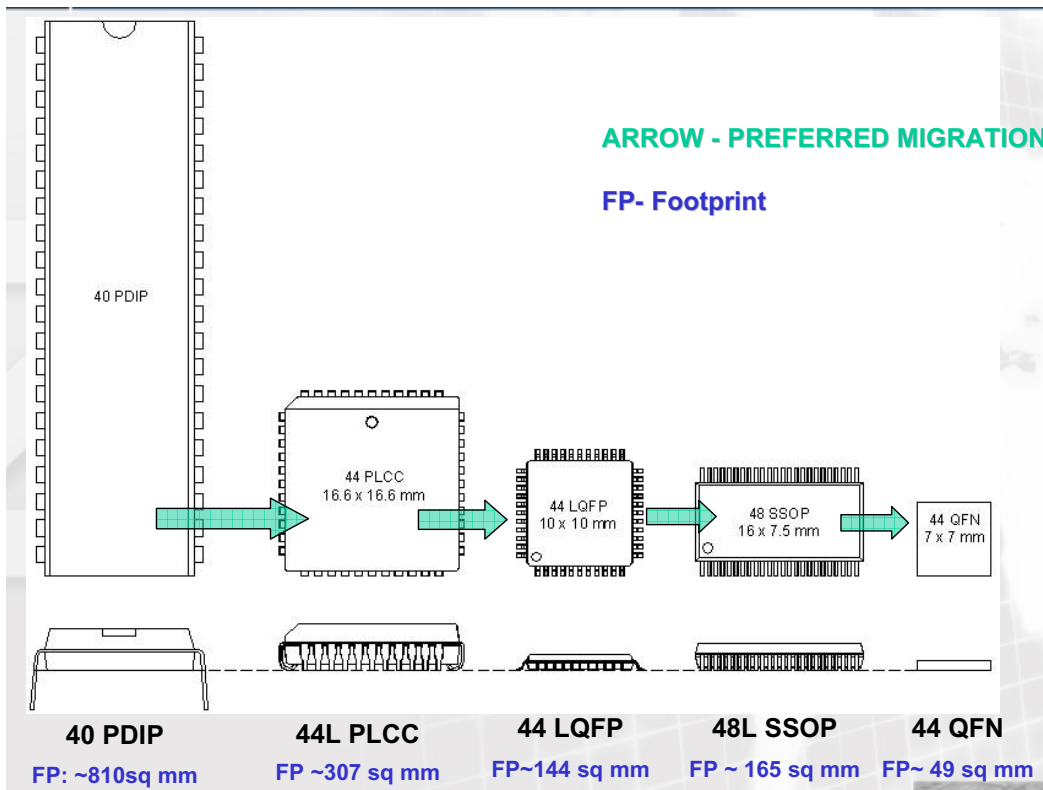

Figure 55. 40-/44-/48-Lead Migration
- 40-/44-/48-lead (Figure 55 on page 51)